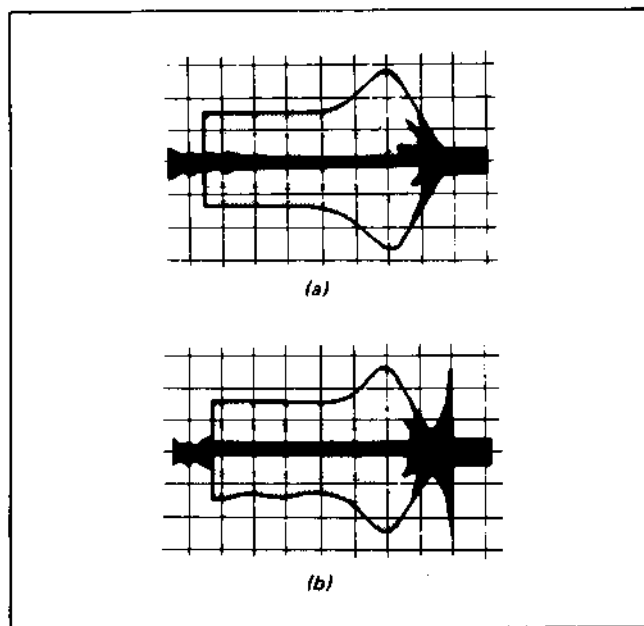

Fig. 4-8.
- 4) At this time, confirm that the exit free waveform is within the range shown in Fig. 4-8(a) and (b).